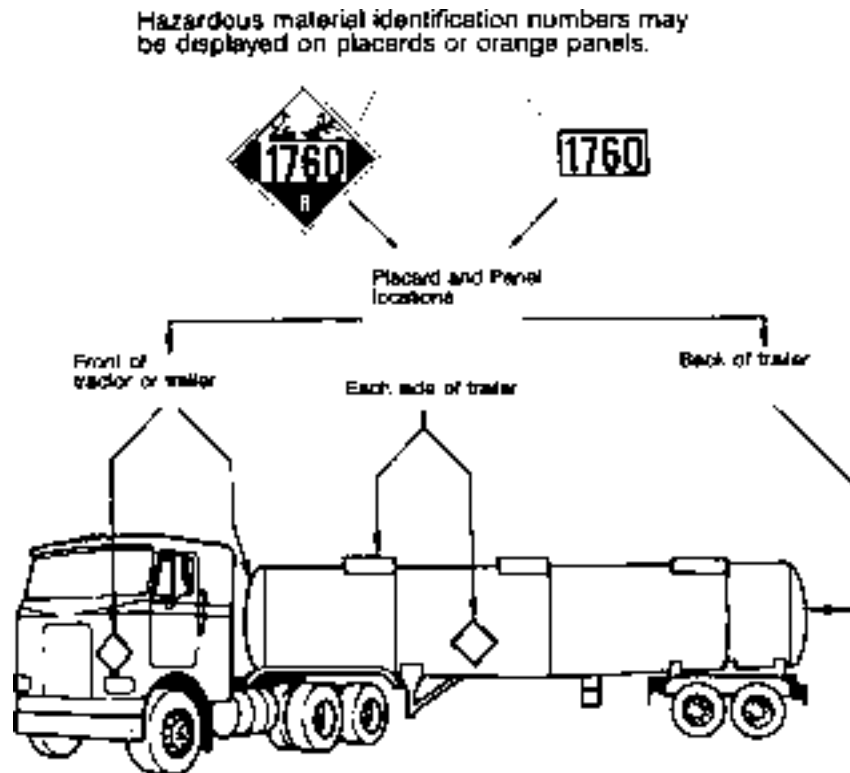

Figure 9-3 Placard and Panel Locations
**Placards** are used to warn others of hazardous materials. Placards are signs put on the outside of a vehicle which identify the hazard class of the cargo. A placarded vehicle must have at least 4 identical placards. They are put on the front, rear, and both sides of the vehicle (see Figure 9-3). Placards must be readable from all four directions. They are 10 3/4 inches square, square-on-point, in a diamond shape. Cargo tanks and other bulk packaging display the I.D. number of their contents on placards or orange panels or white square-on-point displays that are the same size as placards.